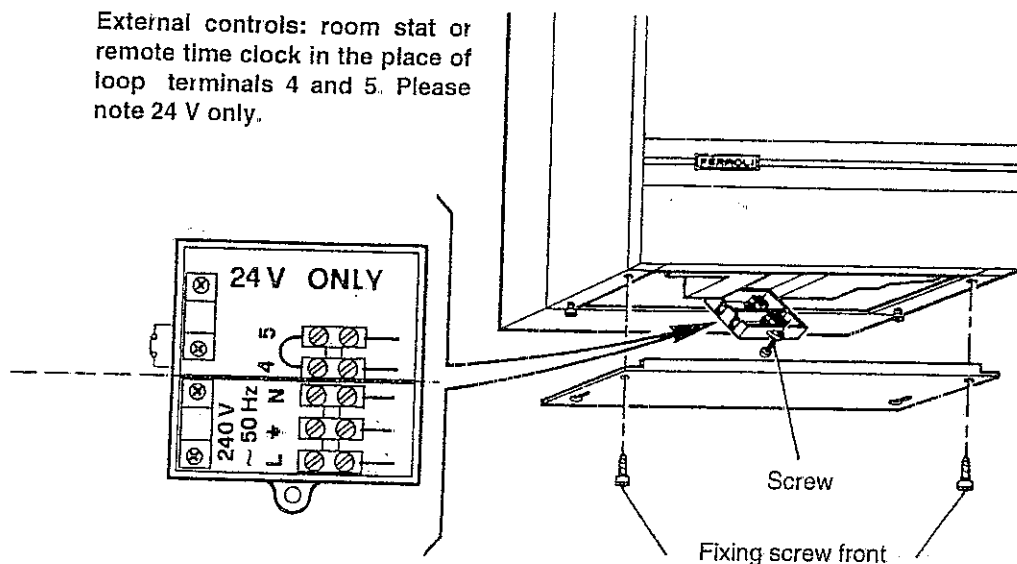

Fig. 18
Electrical installation must be carried out by a competent electrician. The appliance is to be connected to a 240 V ~ 50 Hz supply (see fig. 18). The supply fuse rating is 3A. The terminals are accessible after removing the white base plate and single screw securing the terminal cover (see fig. 18).
7.2 Room Thermostat (fig. 18) (or remote time clock connection)